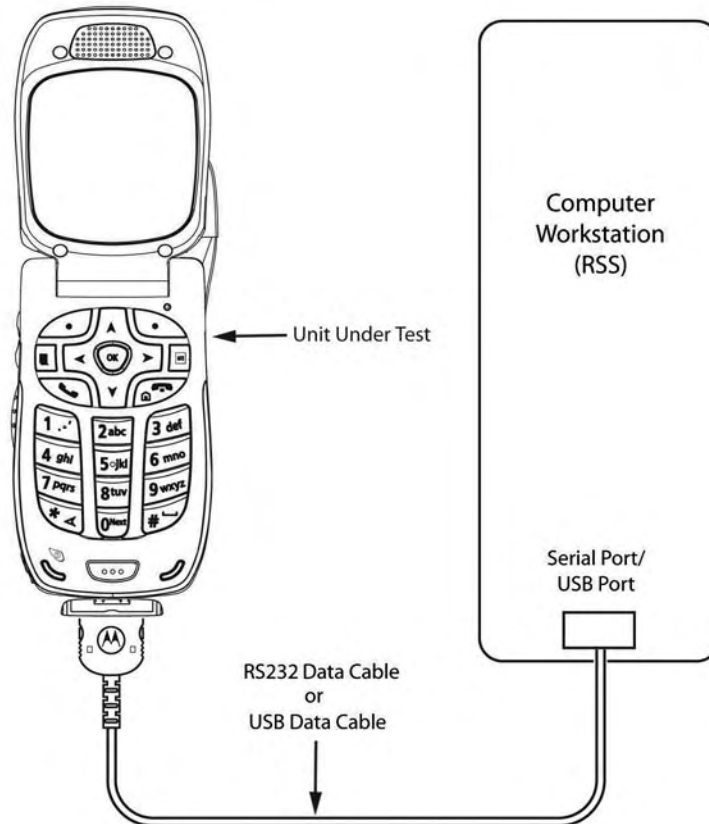

Figure 6-1. Data Cable Programming Setup
To connect the unit to a PC using the iDEN RS-232 (serial) or USB data cable (Figure 6-1):
1. Set up your test equipment configuration. See Figure 6-1 for an illustration of this configuration.